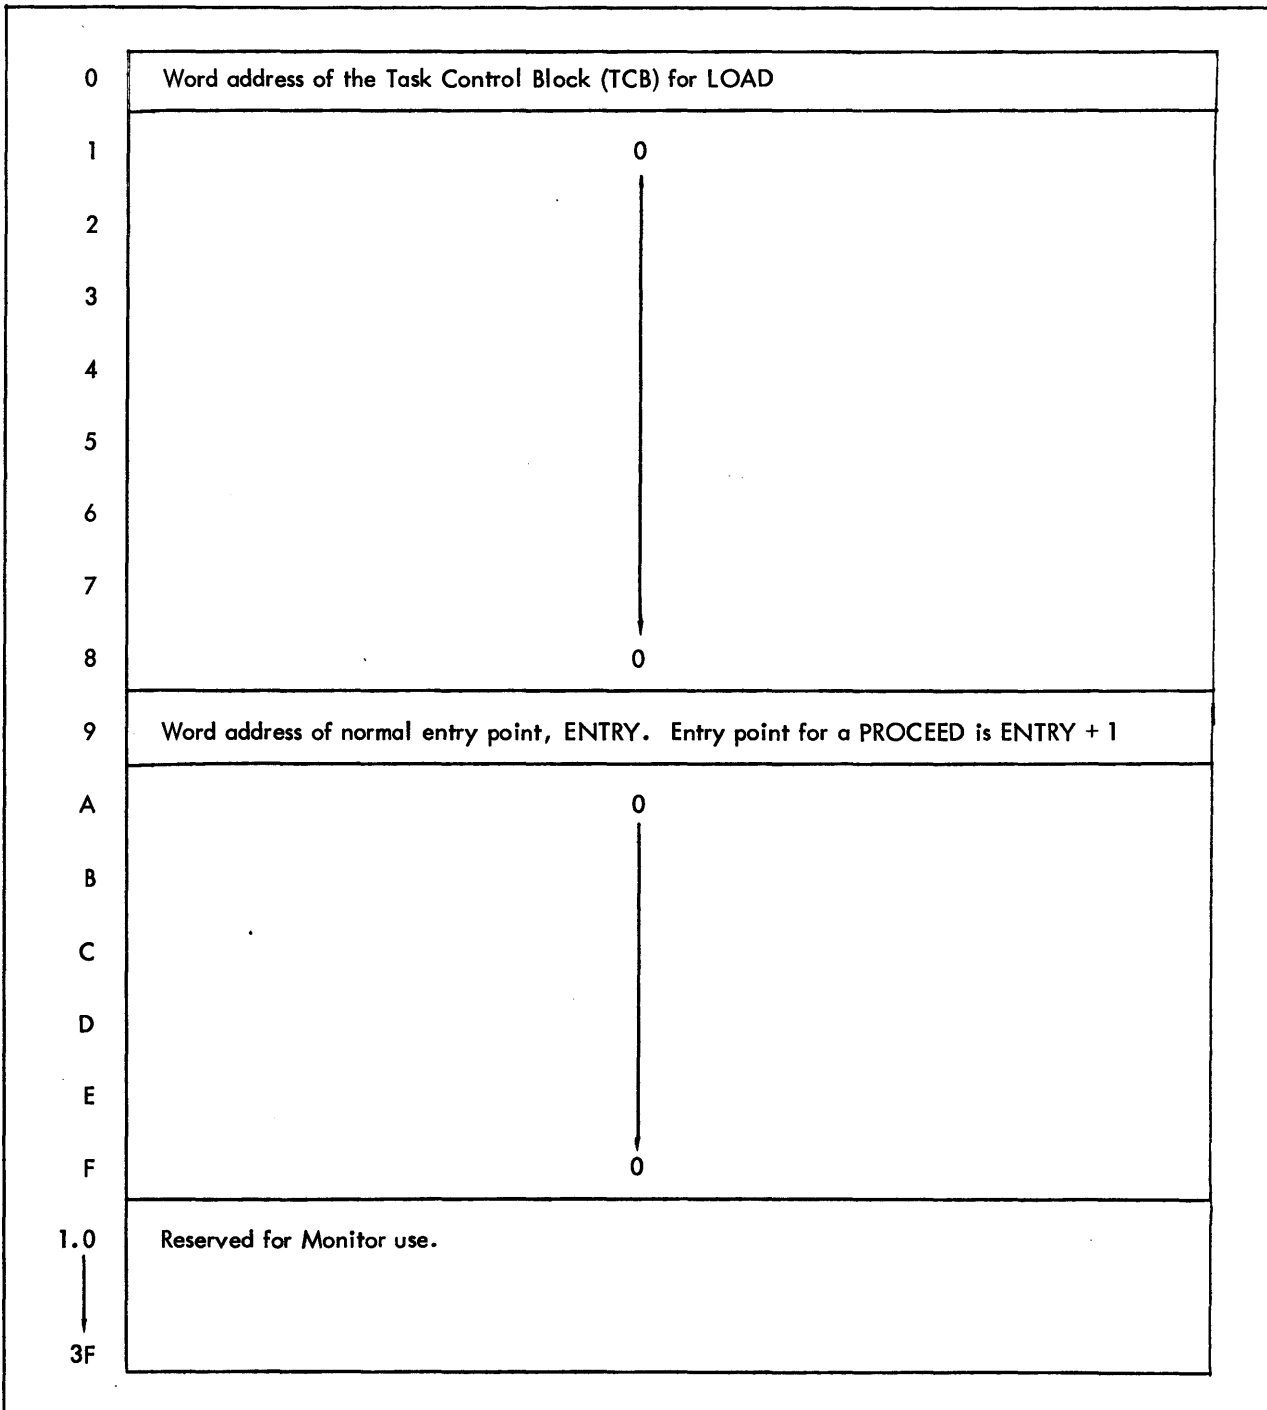

Figure 2-10. Standard First X'40' Words of LOAD Subsystem
- a. The first 40_{16} locations contain specified data. See Figure 2-10 for the format.